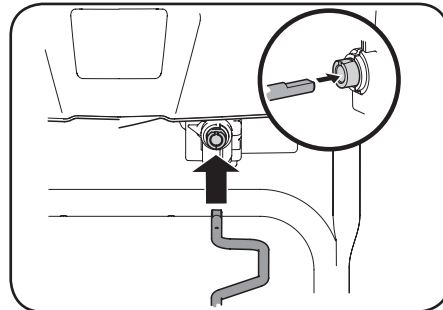

Figure 2-27
5. Insert other end of chute control rod into coupler below handle panel. Make sure to line up flat end of rod and flat end of coupler. You may need to rotate rod around until these two surfaces line up. See Figure 2-27 inset.